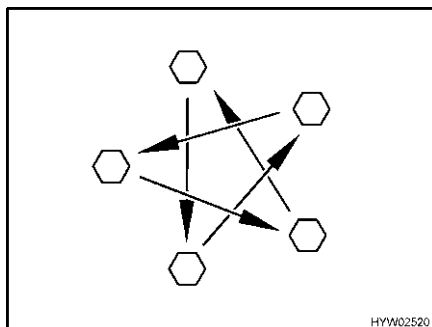

Fig. 269 Tighten the wheel nuts or wheel bolts cross-wise
- Check regularly that the wheel nuts or wheel bolts are firmly seated. Retighten the wheel nuts or wheel bolts of a changed wheel cross-wise (Fig. 269) after 50 km (30 miles). See section 13.5.2 for tightening torque.
- ▷ Tighten the wheel nuts or wheel bolts cross-wise (Fig. 269).